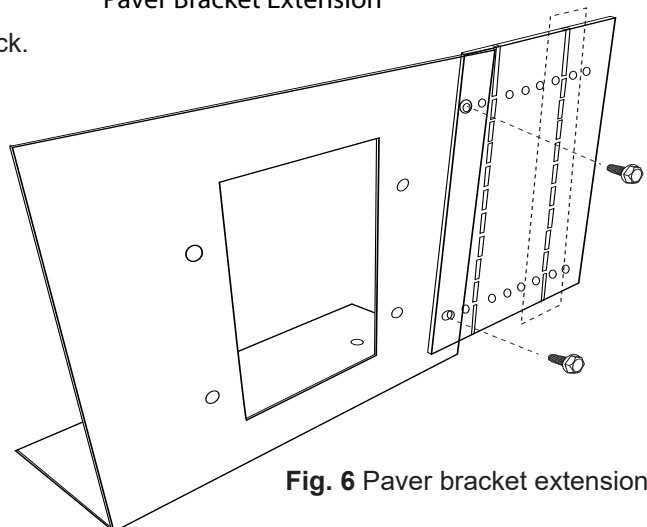

Fig. 6 Paver bracket extension.
Step 6: Install the cover plate overtop of the ESTOP gas timer. Align the holes in the cover plate with the holes in the ESTOP gas timer (top and bottom) and install the two (2) mounting screws (#10-24 x 6.25" SS Phillips screws) to secure the cover plate as shown in Figs. 6 and 7.